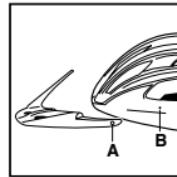

Figure 12
2. To replace the visor, center it on the helmet and then snap the pins (A) on the visor into the holes (B) in the helmet, Figure 12.